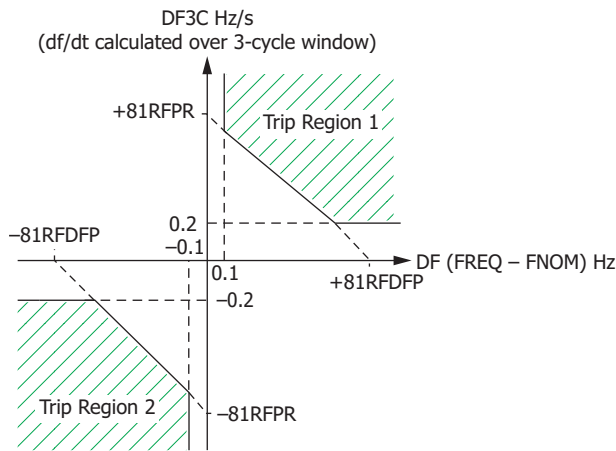

Figure 10 81RF Characteristic Power Element Protection
The fast rate-of-change-of-frequency protection, 81RF, provides a faster response compared to the frequency (81) and rate-of-change-of-frequency (81R) elements. Fast operating speed makes the 81RF element suitable for detecting islanding conditions. The element uses a characteristic (see *Figure 10*) based on the frequency deviation from nominal frequency ($DF = \text{FREQ} - \text{FNOM}$) and the rate-of-change of frequency (DF3C) to detect islanding conditions.